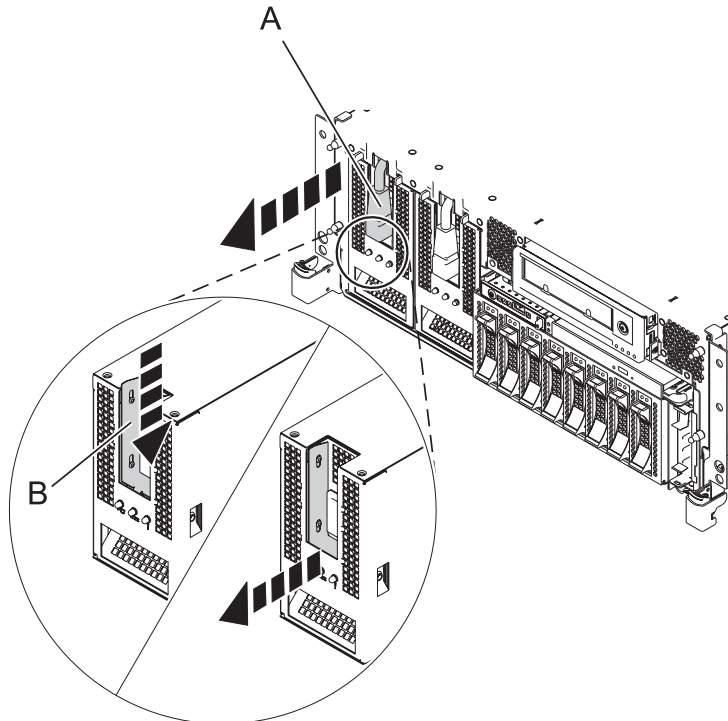

Figure 1. Removing the power supply from a rack-mounted model
7. Disconnect the power cable (A) from the front of the power supply as shown in Figure 1.